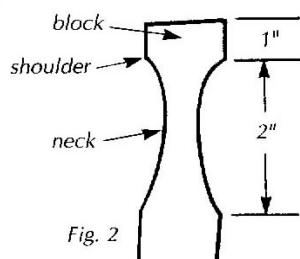

Fig. 2
3. Heat at end of cut 'C', lay across edge of anvil and bend 90 degree, but not real sharp. See fig. 2. Then while still hot, lay on horn of anvil and roll end down a little, this is the handle. Hammer out any saw marks.
5. Heat end 'B' and form small hooks. See Fig. 2. Have a piece of side link chain from a set of car tire chains ready to put in closed hook, before closing hook. Chain should be about 18-20 inches long. Cut the last link on one side and form hook to hold pot.
After quenching, turn the piece around and heat the other end, squaring it up as before. Take a second heat about 2" back from the end and with 1" hanging over the far side of the anvil, hold it on its edge and hammer a neck into the bar as shown in Fig. 2. This narrow neck area will be more than 1/4" thick now, so turn the flat side to the anvil and reduce the neck back down to 1/4". Turn it onto its edge again and rework it until the piece is nicely tapered at the neck.